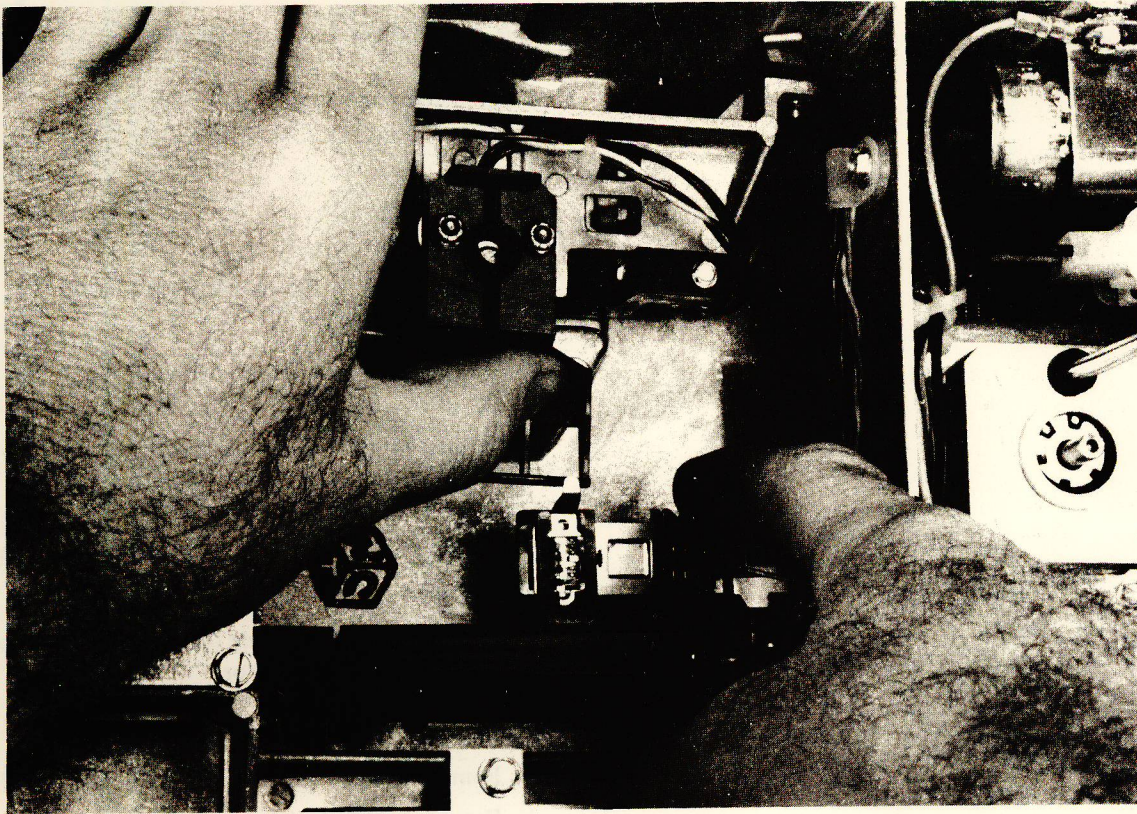

FIGURE 2 BAIL UNLOADING
- d. Carefully hold the moveable arm assembly (head 1, outside head) with one finger while pushing the head load bail up and back to allow the tab on the head load arm to clear the load arm. (Figure 2.)
- j. Engage solenoid bail with head arm lift tab by raising cartridge guide and bail away to clear the lift tab (Figure 2). Care must be taken to avoid damage to the head arm.